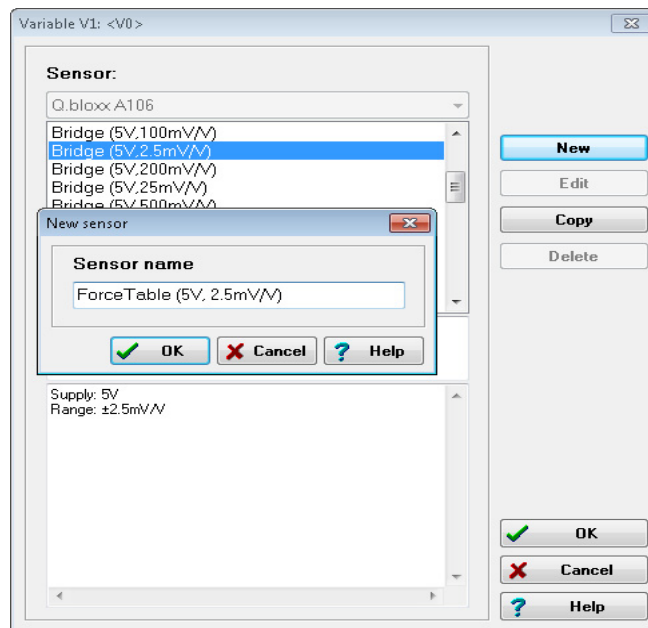

Fig. 5-5 Creating a new sensor for scaling.
3. Copy the sensor (click on **Copy**) and specify a name, e.g. **ForceTable** (Fig. 5-5). If the scaling to be entered later only applies to this sensor, you should use the sensor type and the serial number as the name, e.g. **C2 #1234 (5V)**.